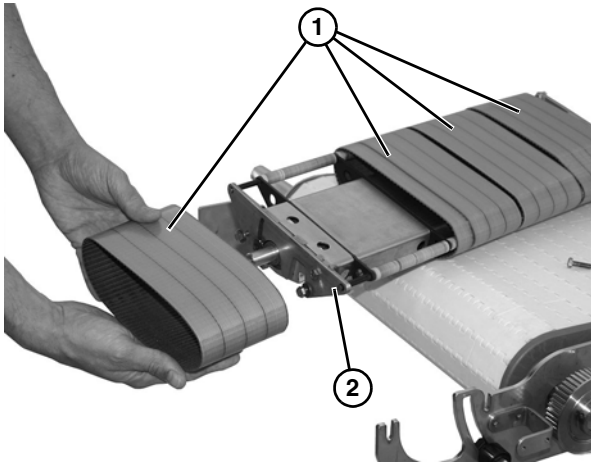

Figure 27
5. Remove belts (**Figure 27, item 1**) from power transfer assembly (**Figure 27, item 2**).